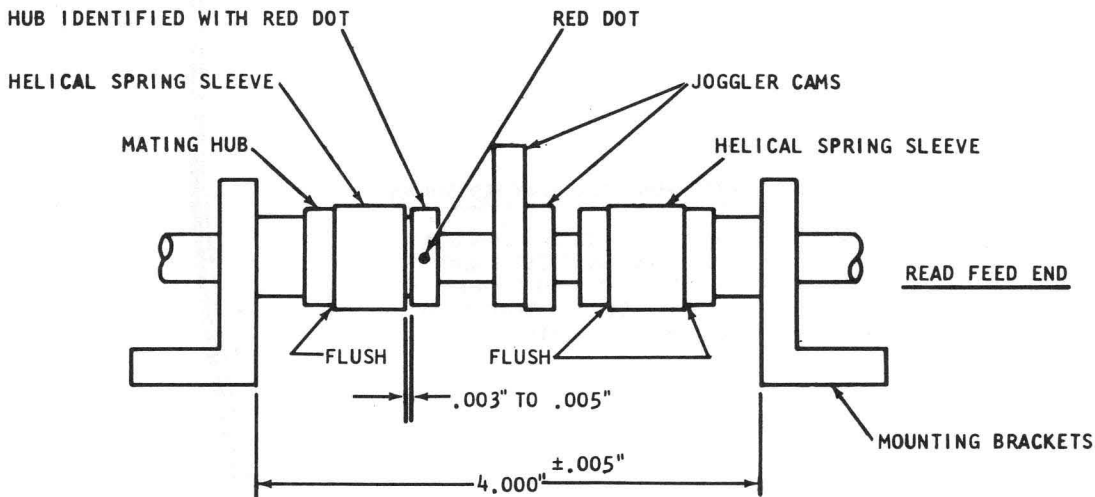

Figure 3-42. Center Stacker Joggler Assembly
2. Maintain 4.000" ± .005" between bases of two inside bearing brackets. See Figure 3-42.